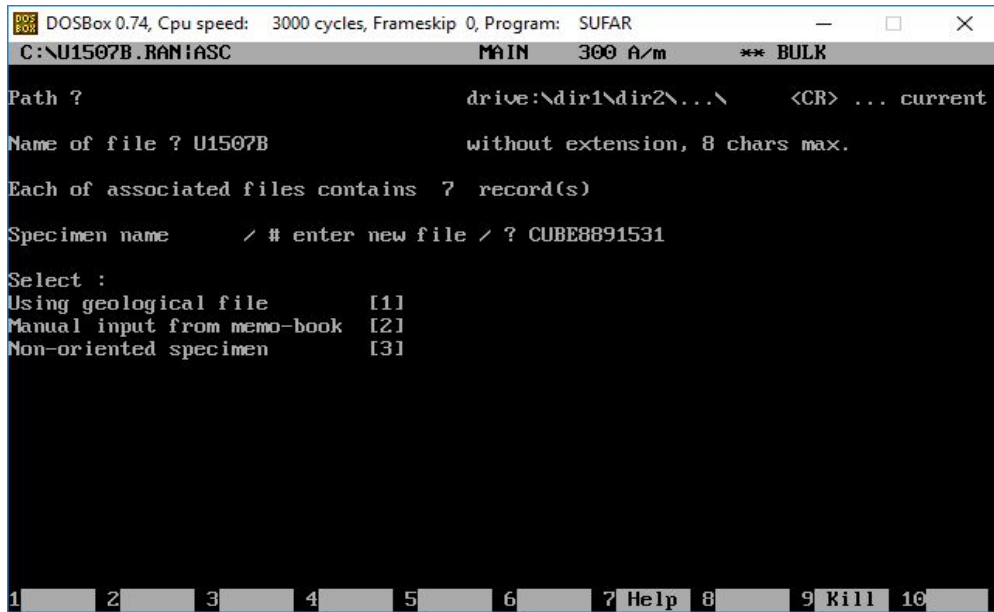

Figure 15 Sufar window displaying options for entering specimen orientation information
12. The SuFar window now displays the options for entering the orientation scheme you wish to use (Figure 15). Enter 1,2, or 3 and press return.